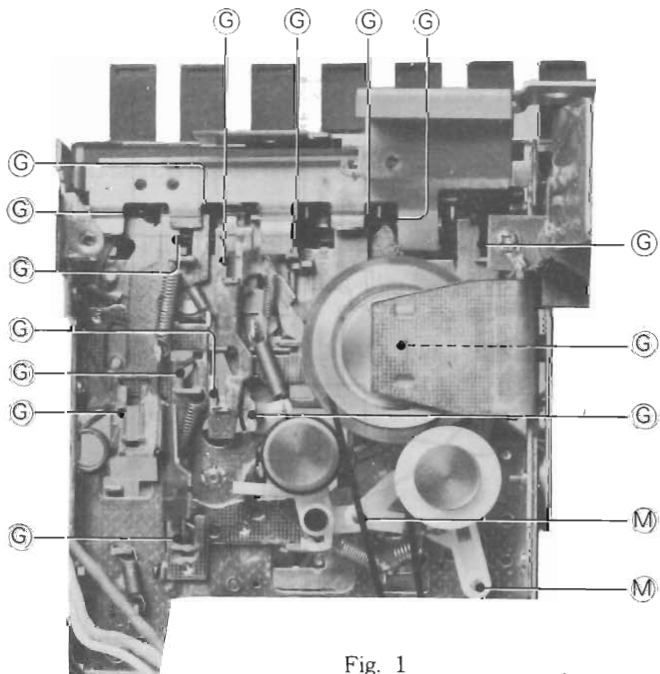

Fig. 1
One or two drops of machine oil may be applied to the points (M) (rotating parts) and grease may be applied to the points (G) (sliding surfaces) as shown in Figs. 1 and 2.